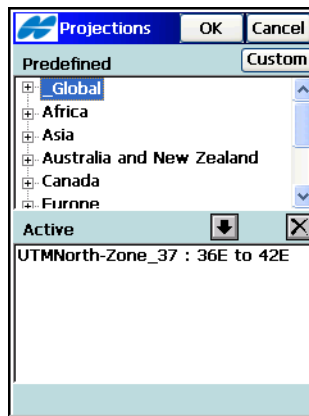

Figure 4-84. Projections
1. On the *Projections* screen, highlight the desired projection from the *Predefined* list (Figure 4-84).
To create a custom projection , tap the **Custom** button in the *Projections* screen (Figure 4-84 on page 4-65). The **Custom Projections** screen displays and contains a list of custom grid projections. Initially, this list is empty.